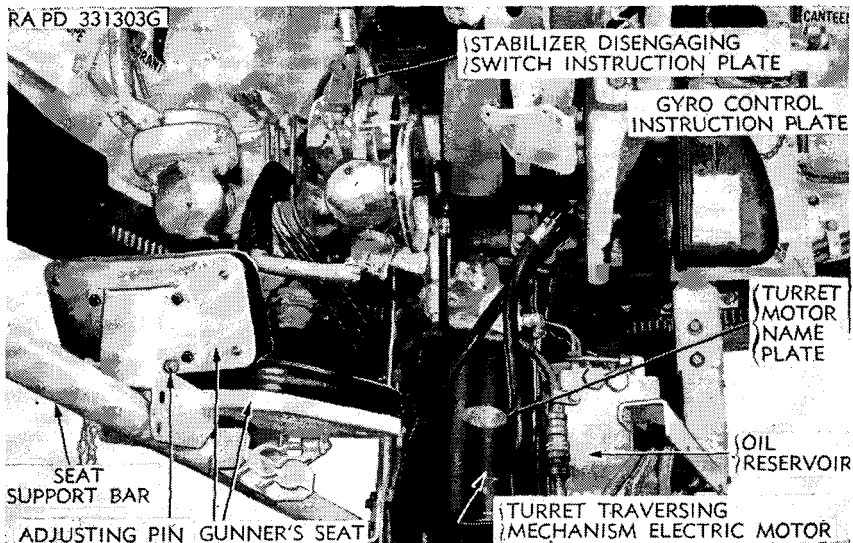

Figure 162. Gunner's seat.
b. GUNNER'S SEAT. The gunner's seat may be adjusted to three positions by removing the locking pin at the bottom of the seat, raising or lowering seat to the desired position and installing adjusting pin (fig. 162).